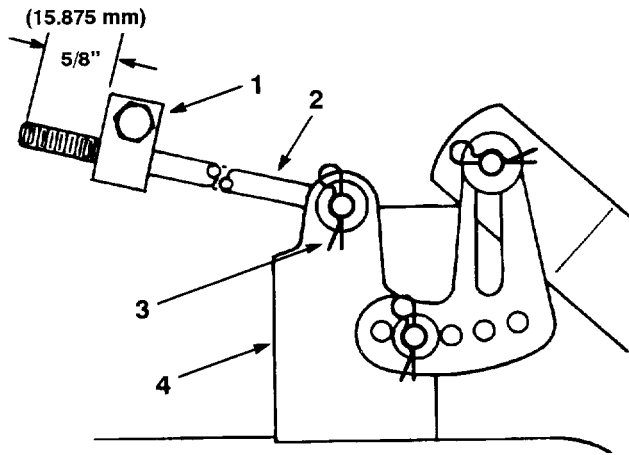

Figure 51
6. Measure the length of the rod extending out the front of the adjusting block on the sides of the chassis (Fig. 51). If the rod length is not 5/8" (15.875 mm), remove the hair pin cotter and washer from the end of the rod (Fig. 51), and turn the rod until the 5/8" (15.875 mm) dimension is obtained. Then install the end of the rod into the hole in the mower mount and secure in place with washer and hair pin cotter. Repeat this procedure on the opposite side of the mower.
8. Raise or lower the front of the mower by adjusting the length of the long rod and reinstalling it in the mower mount with the washer and hair pin cotter (Fig. 51). Adjust one side, then the other. After adjusting both rods, check the front-to-rear slope again. Continue to adjust the rods one turn at a time until the front of the mower is  $1/8$ " to  $3/8$ " (3.175 mm to 9.525 mm) lower than the rear of the mower.